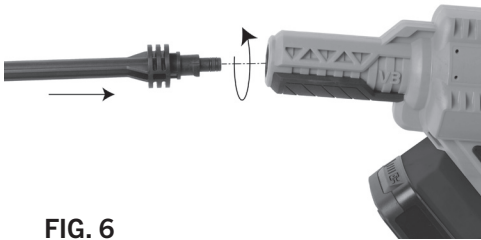

FIG. 6
4. To remove wand from the power washer, press in and turn wand half a turn counter-clockwise and pull out (Fig 6 and 7).